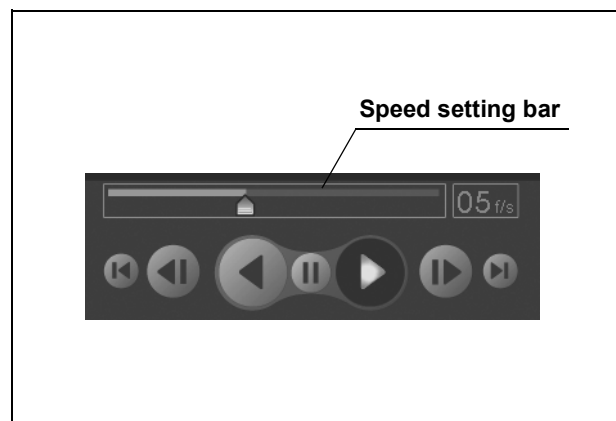

Figure 6.19
1. To set the review speed, drag the cursor on the speed setting bar with the mouse (see Figure 6.19).